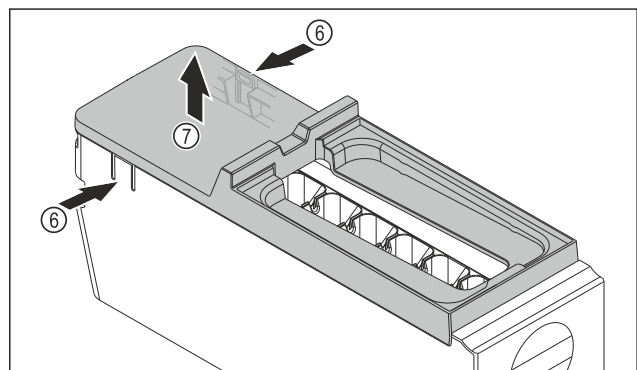

Fig. 166
- ▶ Removing the cover of the EasyTwist-Ice body: With one hand, press the tabs Fig. 166 (6) on both sides of the EasyTwist-Ice body.
- ▶ With the other hand, remove the cover Fig. 166 (7) upward.